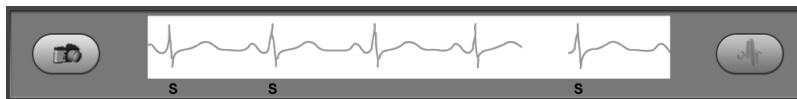
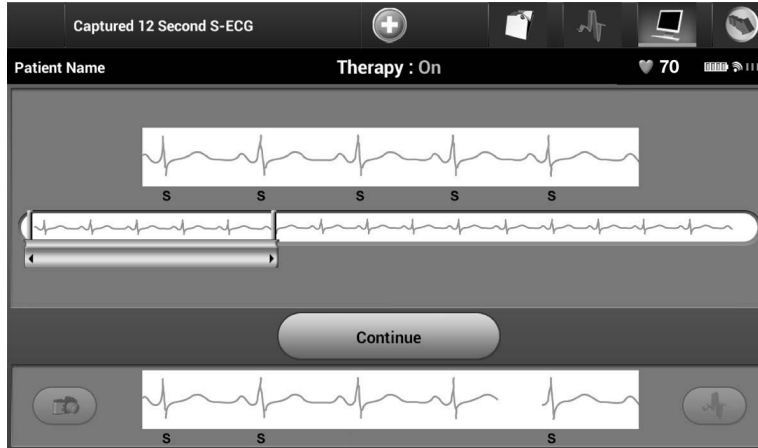

Figure 45: Select the Capture S-ECG button
Figure 46: Captured S-ECG rhythm strip
1. Select the Capture S-ECG button located to the left of the Live S-ECG window (Figure 45). The S-ECG will scroll across the display screen. Calipers appear below the Captured S-ECG rhythm strip (Figure 46). Each 12-second recording is date and time stamped according to the programmer's date and time setting.